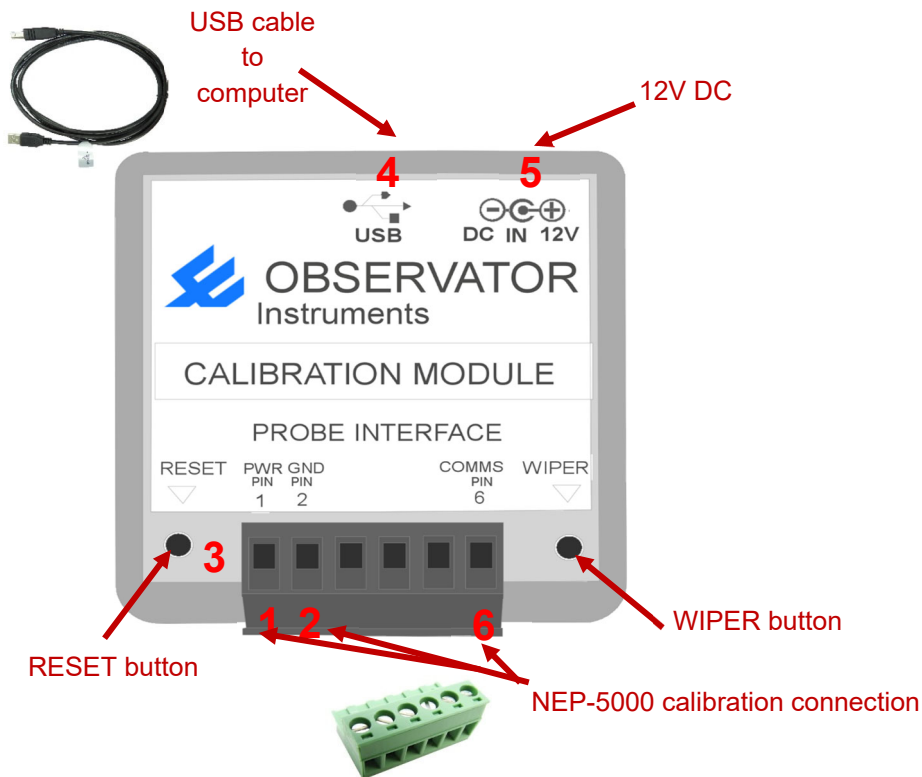

Figure 6.G: Bluebox calibration module
4. Connect to the calibration software". Press reset when required to reset the communication (Figure 6.G: #3) with the sensor.